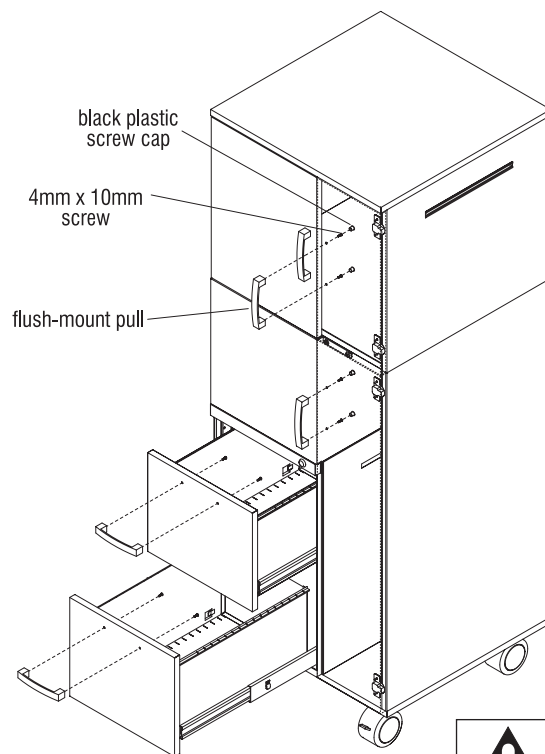

Figure 2
2. Using two 4mm x 10mm screws, fasten the pull to the door as illustrated (Figure 2).
3. Finish the inside of the door with two black plastic screw caps (Figure 2).